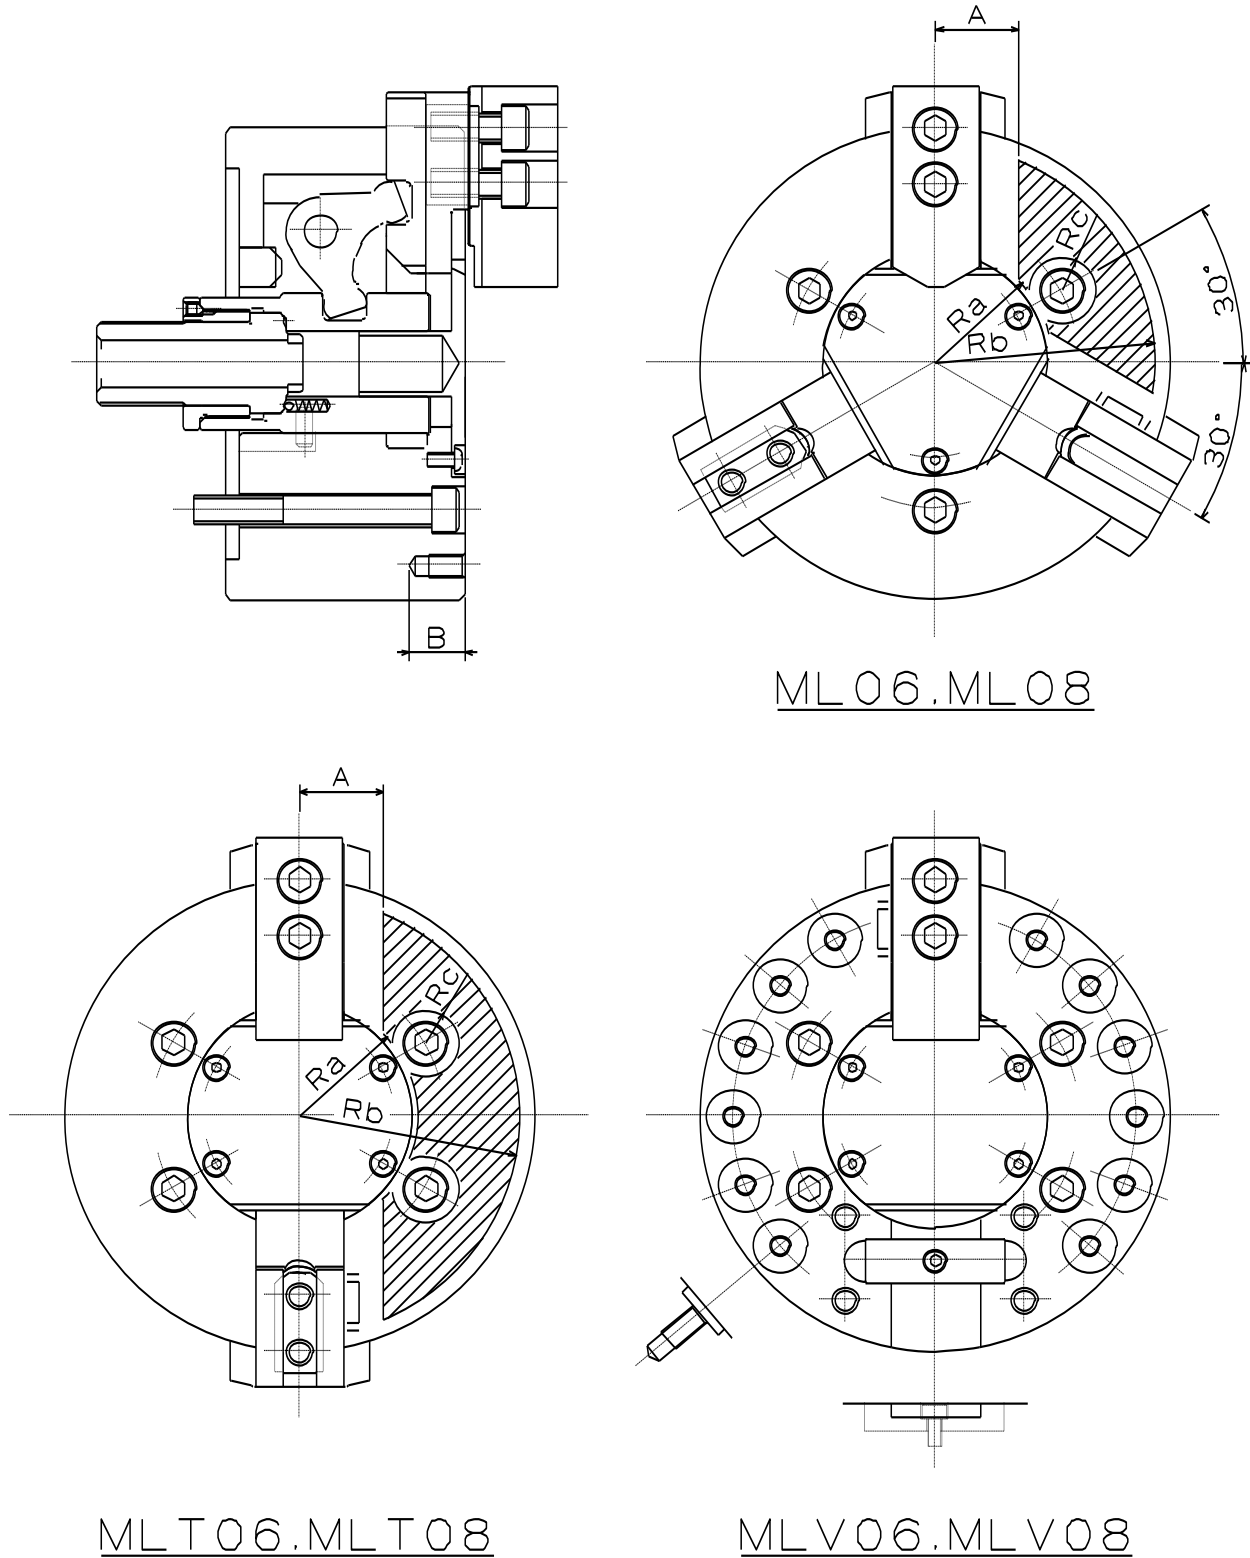

Fig.12
- In the case of attaching the locator and the jig on the chuck body surface, tap or drill a hole in the additional process range specified in Fig. 12.